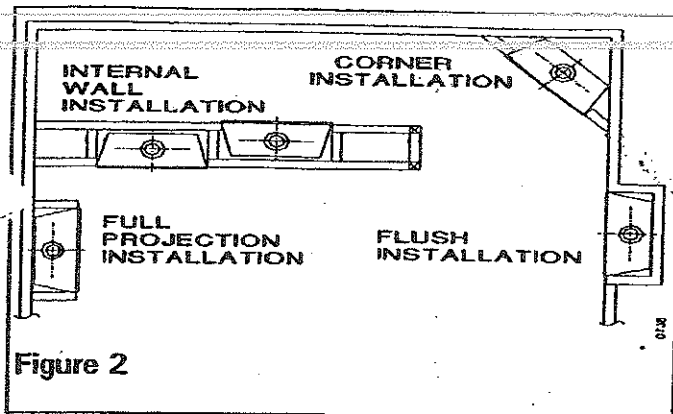

Figure 2
3. A location that avoids the cutting of joists or roof rafter will make installation easier. Figure 2 shows a plan view of a few common locations.